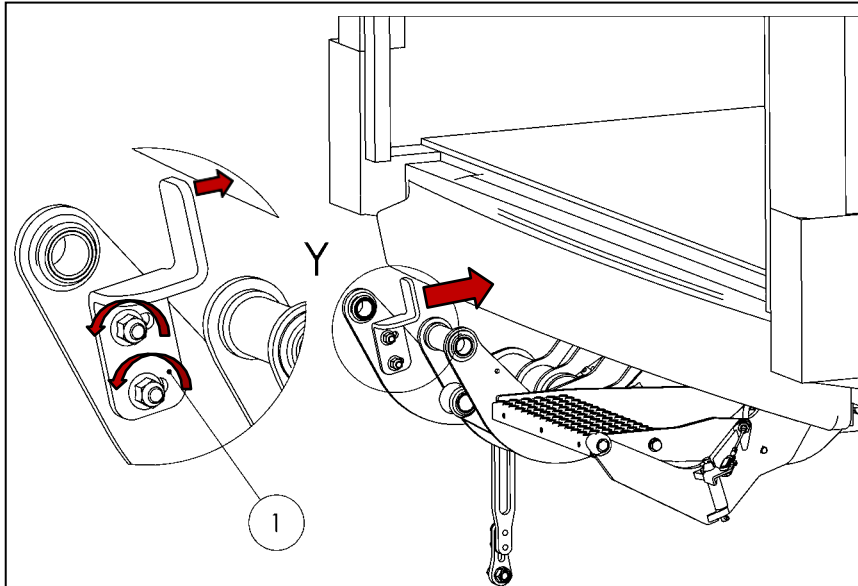

Figure 56
- Loosen the platform stop (1) and push it toward the vehicle (see Fig. 56).